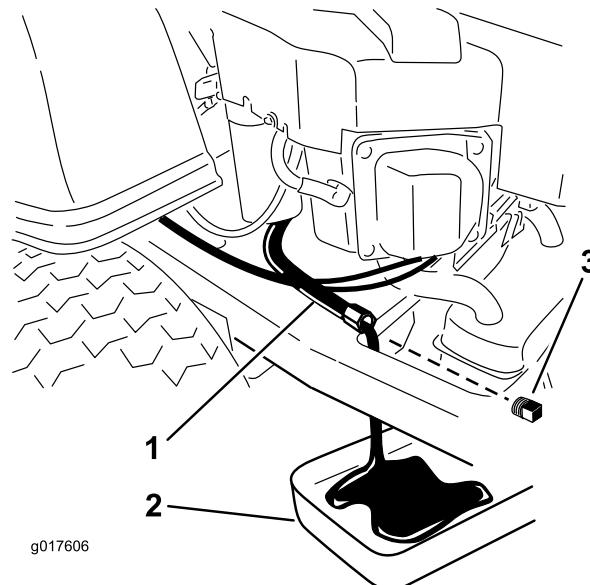

Figure 30
- Locate the oil drain hose on the left side of the engine. The drain plug is attached to the drain hose (Figure 30). Clean the area around the oil drain plug and the oil drain hose.
- Place a pan underneath machine directly below the oil drain hose as shown in Figure 30.
- Using two wrenches (one to hold the oil drain hose and one to loosen the plug), remove the oil drain plug (Figure 30).
12. When oil has drained completely, install the oil drain plug. Tighten the plug to 125 in-lb (14 N-m) torque. Wipe up any excess oil (Figure 30).